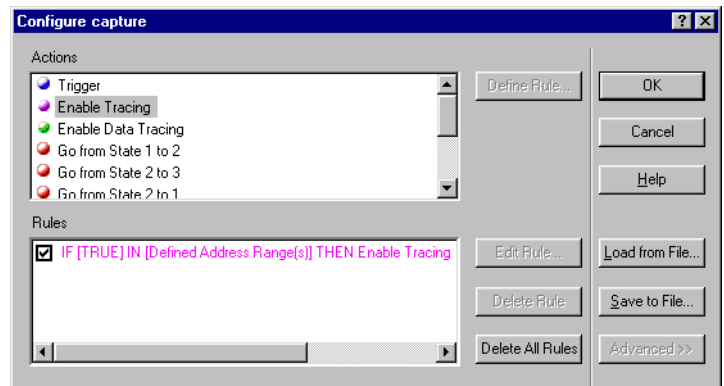

Figure 8-31 Configure capture dialog box
9. Click **Finish** to create this rule. The Configure capture dialog box now shows the new Enable Tracing rule in the Rules list, as shown in Figure 8-31.